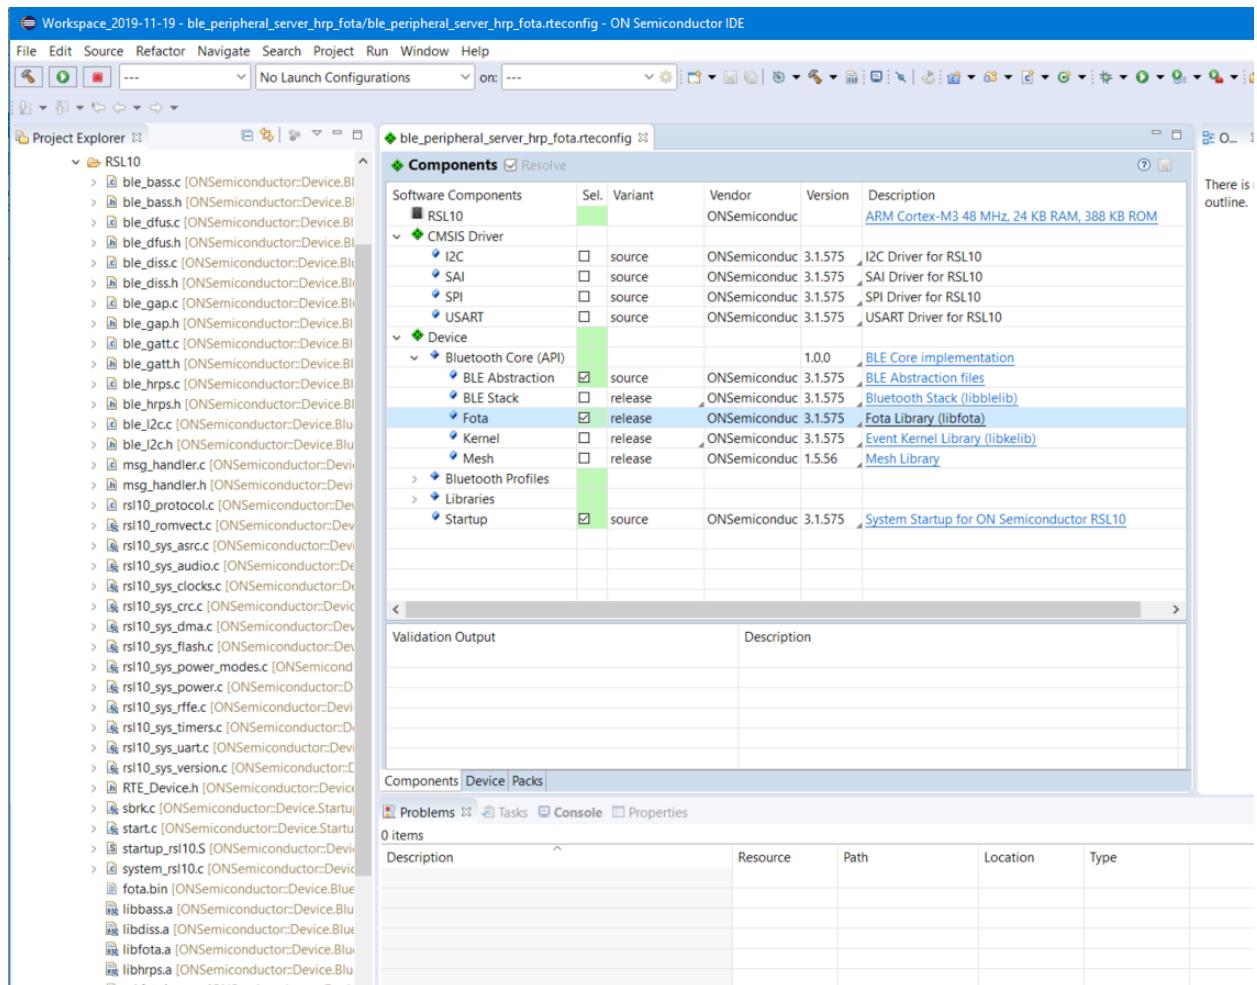

Figure 4. Files in FOTA Sample Project
3. The C/C++ perspective opens and displays your newly copied project. In the **Project Explorer** panel, you can expand your project folder and explore the files inside your project, as seen in Figure 4 on page 10. On the right side, the *ble_peripheral_server_hrp_fota.rteconfig* file displays the selected software components, including the new component named **Fota**. If you expand **RTE > Device > RSL10**, you can find the FOTA